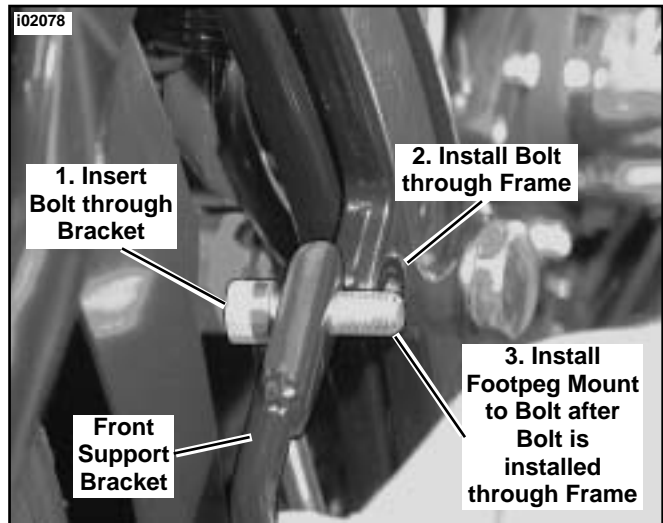

Figure 5. Saddlebag Support Bracket (1987-1999 Models)
- a. See Figure 5. Obtain 1/2x13x1-1/2 inch socket head bolt (Part Number 3549A) and insert through support bracket, then through frame (from inside).